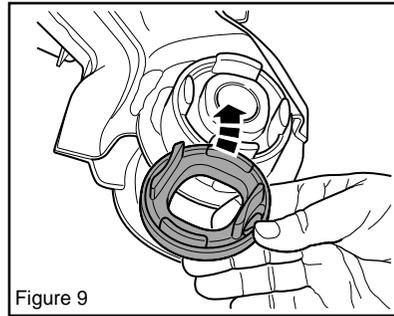
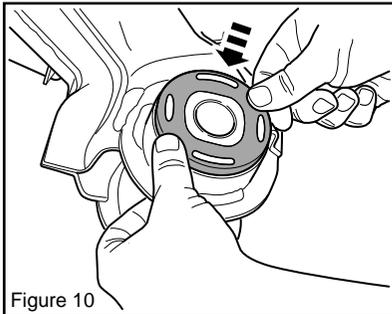

Figure 9
Figure 10
10. Install 9170A bush into the top of the rear cradle OE mount using a small amount of grease supplied. (Figure 9 & Figure 10).